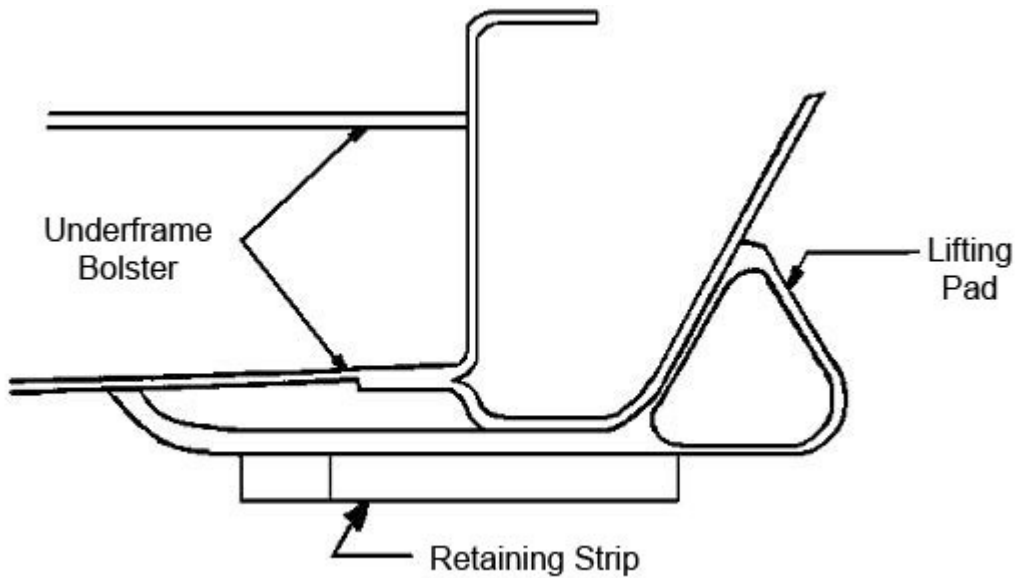

Figure 4: Strengthening of Lifting Point
- 2.1 At Location A the solebars are strengthened locally by a lifting pad (see Figure 4). A hole is provided for locating adaptor plates required for the lifting legs by gantry cranes. It is essential that the adaptor plates sit down on the lifting leg face and not on the pins securing the plate to the legs.